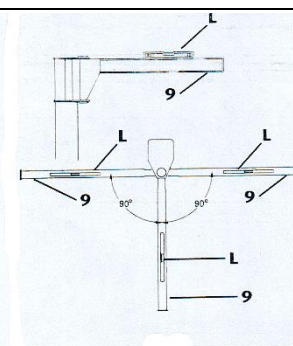

fig. 51
7. Carry out the check of the planarity of the arm **9** with the help of a level **L**. Do this check by rotating the arm by 90° to the left and to the right (fig. 51).